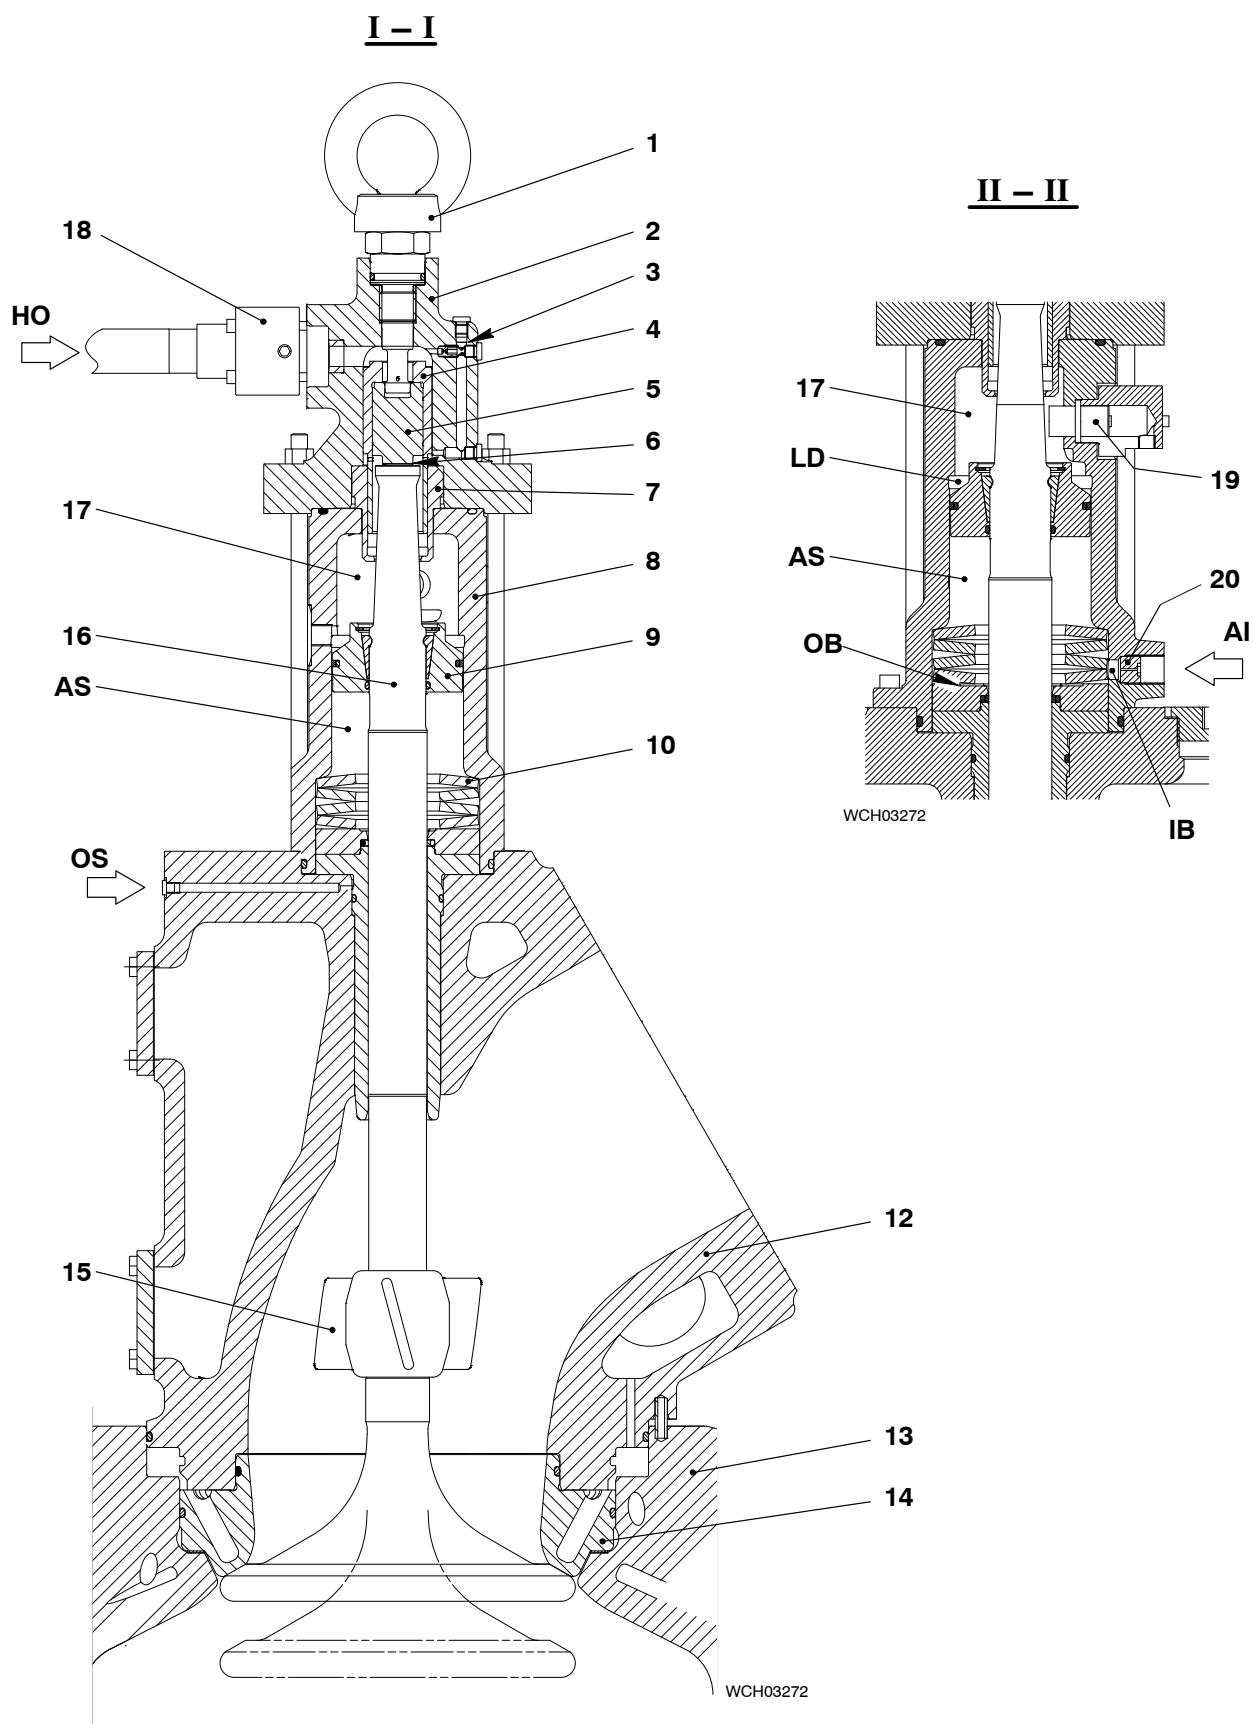

Fig. 2: Exhaust Valve and Leakage Oil Drain
I - I See Fig. 2
II - II See Fig. 2
The air spring (AS, Fig. 2) is below the air spring piston (9).
Key to Fig. 2: Exhaust Valve and Leakage Oil Drain